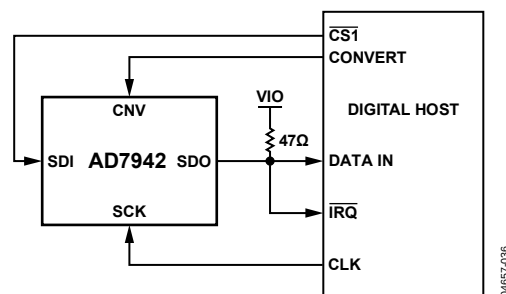
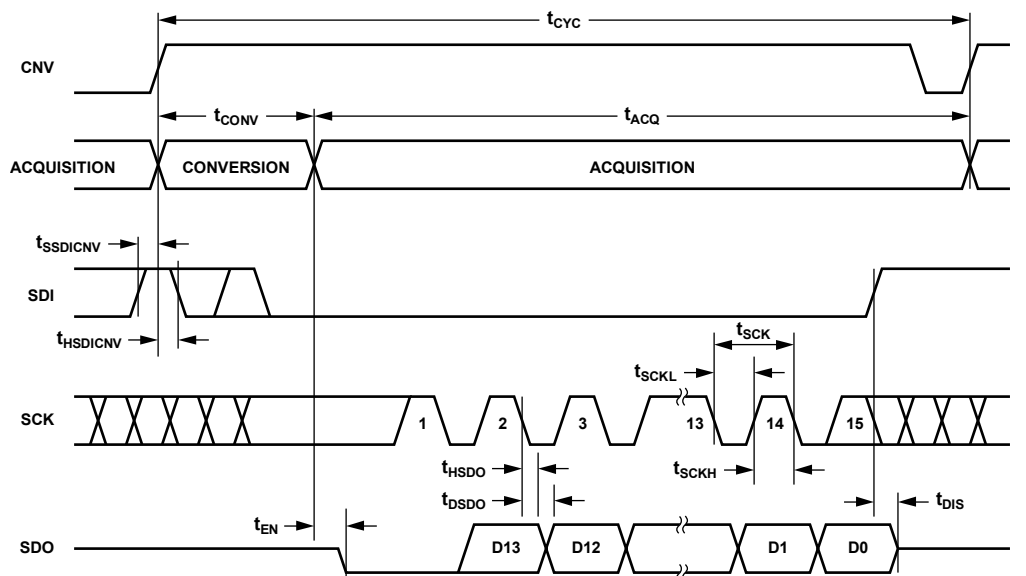

Figure 36. $\overline{\text{CS}}$ Mode 4-Wire with Busy Indicator Connection Diagram
Figure 37. $\overline{\text{CS}}$ Mode 4-Wire with Busy Indicator, Serial Interface Timing
- In the $\overline{\text{CS}}$ mode, if CNV or SDI is low when the ADC conversion ends (see Figure 33 and Figure 37).
This mode is most often used when a single AD7942 is connected to an SPI-compatible digital host with an interrupt input and to keep CNV (which is used to sample the analog input) independent of the signal used to select the data reading. This requirement is particularly important in applications where low jitter on CNV is desired. The connection diagram is shown in Figure 36 and the corresponding timing diagram is given in Figure 37.